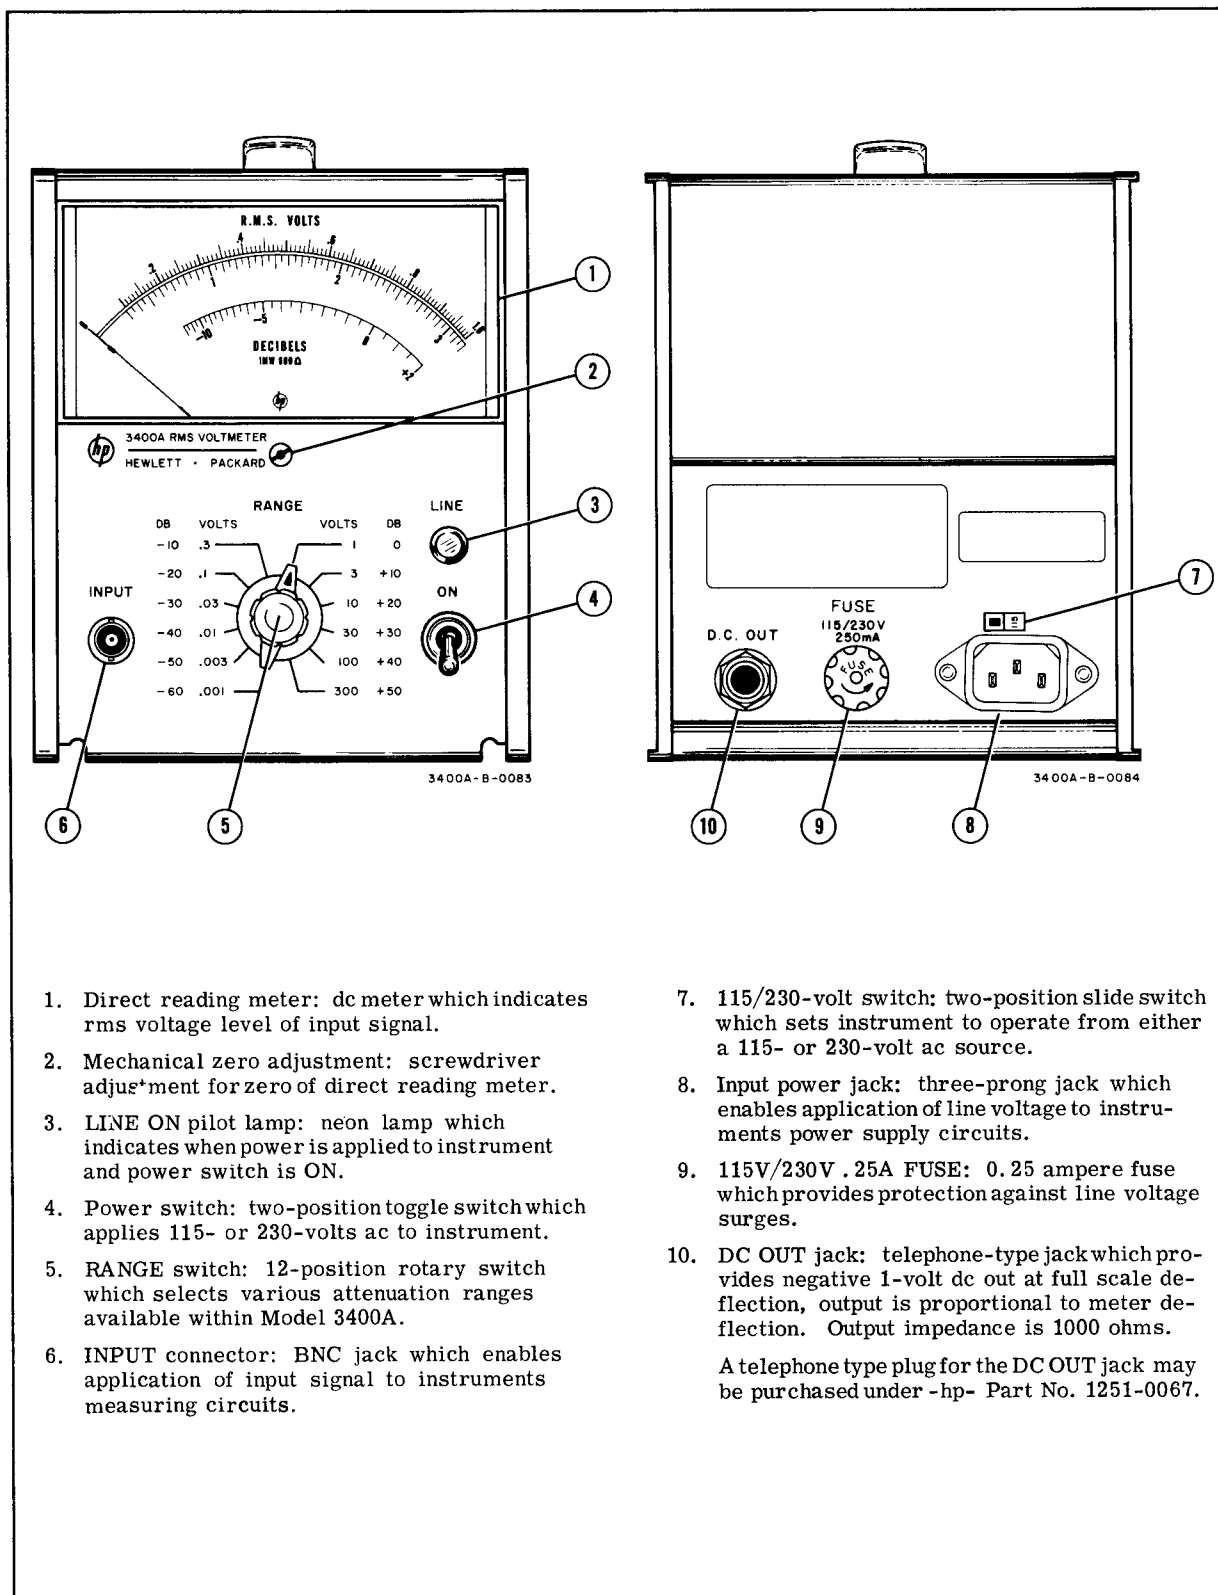

Figure 3-1. Model 3400A Controls and Indicators
3-4. Each operating control, connector, and indicator located on the Model 3400A is identified and described in Figure 3-1. The description of each component is keyed to an illustration of that component which is included within the figure.
- a. Set 115/230 switch (7, Figure 3-1) to correct position for input line voltage.
- b. Apply ac voltage to Model 3400A by plugging power cord into input power jack (8) ac receptacle.
- c. Operate power switch (4) to ON; ensure that LINE indicator (3) lights.
- a. Attach test lead to INPUT connector (6, Figure 3-1). (See Table 1-3 for a list of test leads available.)
- b. Set RANGE switch (5) to 300 VOLTS position.
3-16. Since the Model 3400A is provided with a dc output (10, Figure 3-1) which is proportional to the meter deflection, it can be used as a linear rms ac to dc converter. The dc output can be used to drive a -hp- Model 3440A Digital Voltmeter for high resolution measurements and/or a Mosely Model 680 Strip Chart Recorder. External loading does not affect the meter accuracy so that both the meter and dc output can be used simultaneously. A plug for DC OUT jack may be purchased under -hp- Part No. 1251-0067.